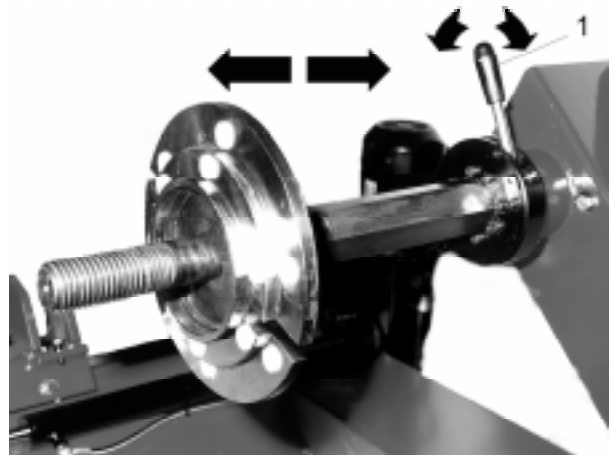

Fig.16
- F.** The hexagonal shaft can be locked in 3 different positions. Operate the chuck shaft lock/release lever (#1 Fig.16) and slide axially the shaft. Make sure that the shaft is properly locked in position.